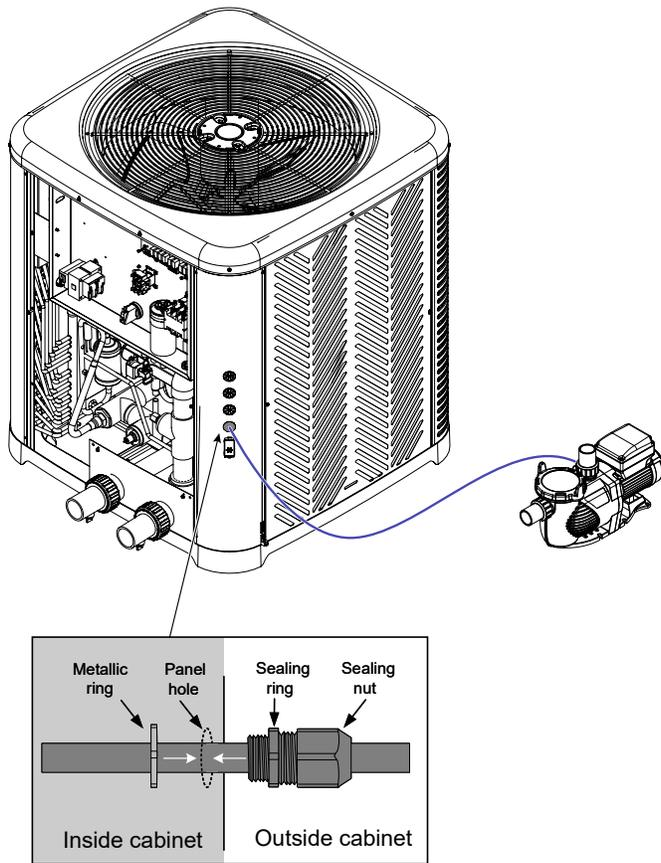

Figure 129. Wiring External Devices Using Liquid Tight Connectors
- In the case you decide to remove the grommets to connect external devices to the heater, run wires using metallic conduit or outdoor-resistant cables. Then, connect the conduit or cables to the knockout using liquid tight connectors to prevent water or dust from entering the system. See Figure 129.